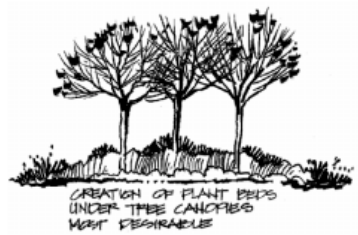

FIGURE 19-23
4.2.4 54.4 Removal of understory is not practical or desirable because of the probability of tree root damage. Creating planting beds under tree group canopies is beneficial because it maintains a more natural look. See **Figure 19-23**.